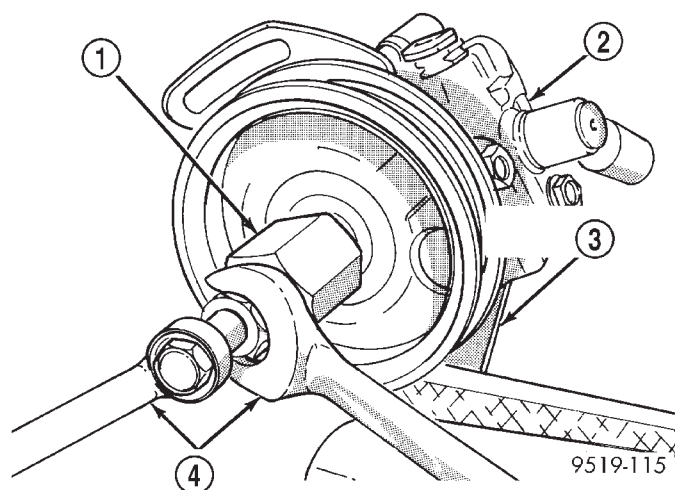

Fig. 23 Installing Pulley On Shaft Of Power Steering Pump
(4) Mount Installer, Special Tool C-4063 in internal threads of the power steering pump shaft and against Special Tool 6936 on power steering pump pulley (Fig. 23).